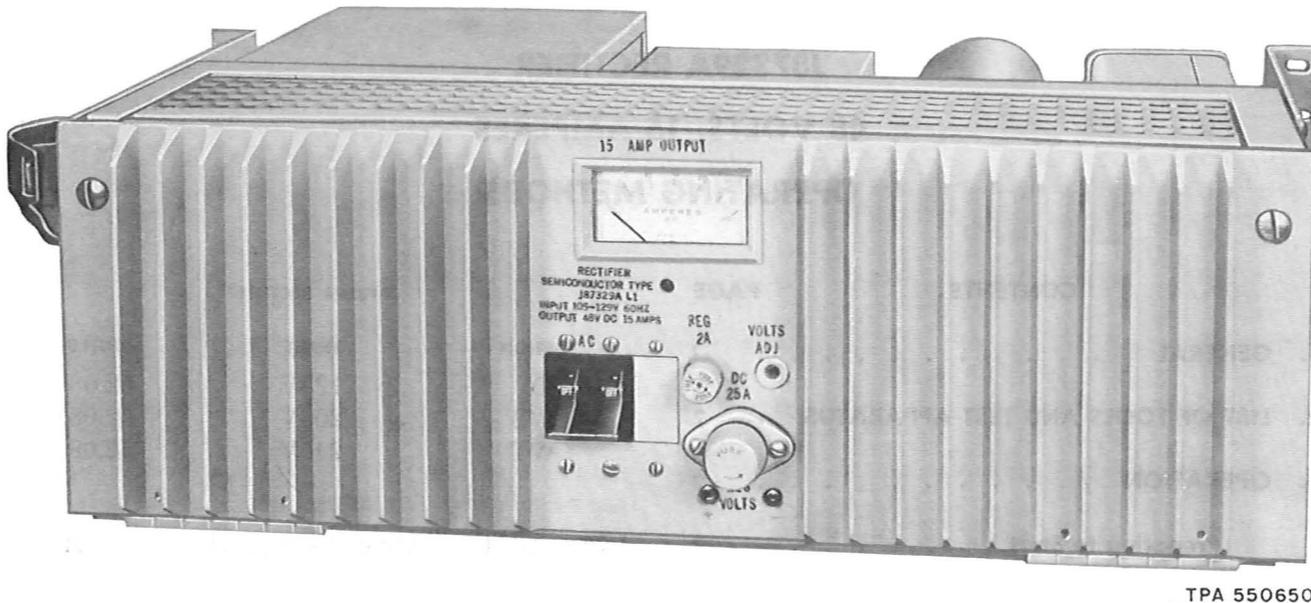

Fig. 1—J87329A Rectifier—Front View
1.01 This rectifier provides a regulated dc power from a single-phase ac power source for use in charging and floating storage batteries of the 105D, 105E, 111A, and 131 power plants. This rectifier has a ferroresonant regulation feature that provides a relatively constant (± 1 percent) dc output. (See Fig. 1.)